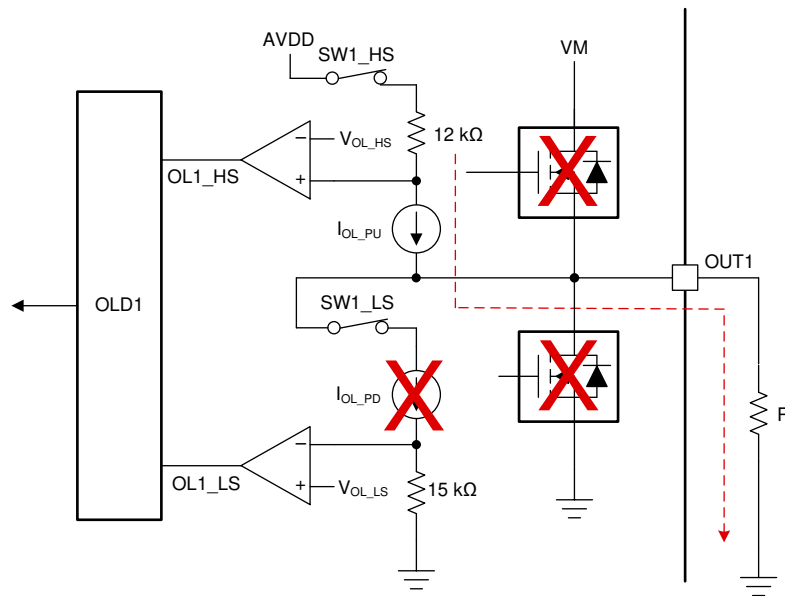
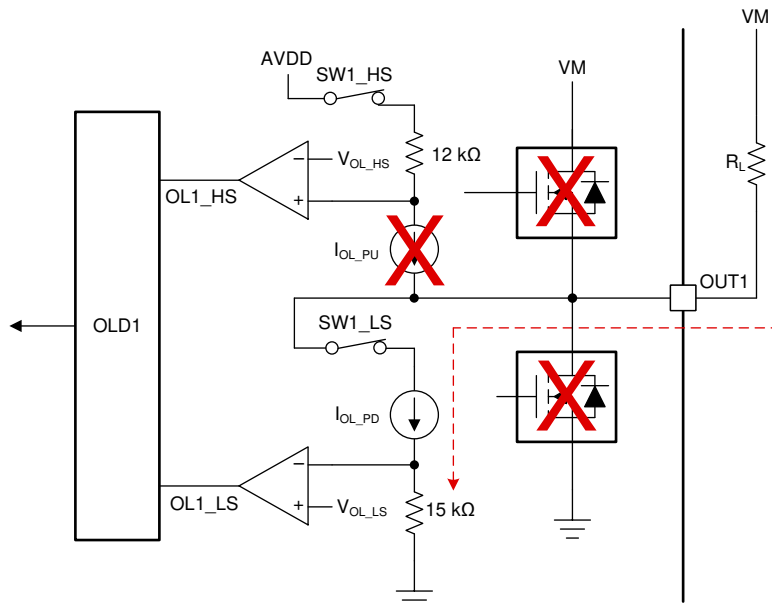

Figure 59. Open Load Detect Circuit for Load Connected to Ground (GND)
Figure 61. Open Load Detect Circuit for Load Connected to Supply Voltage (VM)
OLD circuit consists of four main components i.e. current source (and current sink), series sequencing switches (sequenced by the digital core), resistors and comparators. For ground (GND) connected load, the current source (I_{OL_PU}) pulls up the OUTx node to internal regulator voltage (AVDD) and allows the current to flow from internal regulator voltage (AVDD) to ground via the connected load as shown in Figure 59. Moreover, for the supply (VM) connected load, the current sink (I_{OL_PD}) pulls down the current from supply voltage (VM) to ground via the connected load as shown in Figure 61. The resistance of the load connected at the OUTx terminal will change the source / sink current and indirectly the voltage drop across two resistors (12-kΩ and 15-kΩ). This voltage drop across resistors is compared with the reference voltage (V_{OL_HS} and V_{OL_LS}) by the internal comparators to give the output as OL1_HS and OL1_LS. This comparator output is fed to the open load digital circuit to determine the open load condition.
Figure 59 shows the ground connected load with internal OLD circuit. When high-side open load sequence is activated (i.e. SW1_HS is on and SW1_LS is off), the current source (I_{OL_PU}) pulls up the OUT1 node to internal regulator voltage (AVDD) and current flows from internal regulator voltage (AVDD) to ground via the connected load (R_L). Now, depending upon if the load is present or not, there can be three cases as follows:
8.2.3.3 OLD for Supply (VM) Connected Load
Figure 61 shows the supply (VM) connected load with internal OLD circuit. When low-side open load sequence is activated (i.e. SW1_HS is off and SW1_LS is on), the current sink (I_{OL_PD}) pulls down the OUT1 node to supply voltage (V_{VM}) and current flows from supply (VM) to ground via the connected load (R_L). Now, depending upon if the load is present or not, there can be three cases as follows: